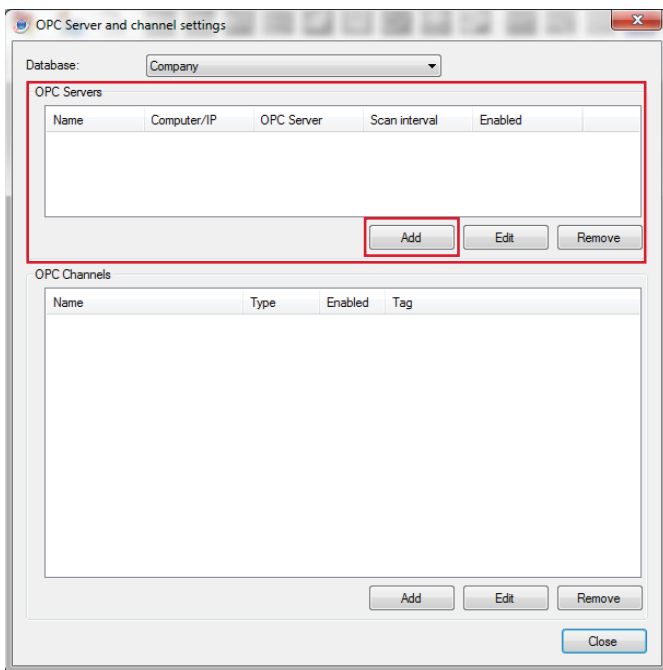

Fig. 3. Click Add from the "OPC Servers" area.
- From the **OPC Server and channel settings** window (→ fig. 3), click **Add** in "OPC Servers" area.